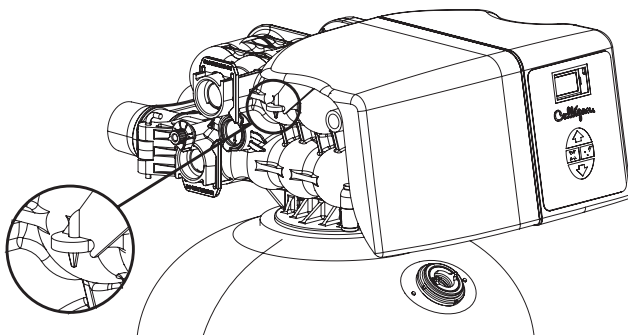
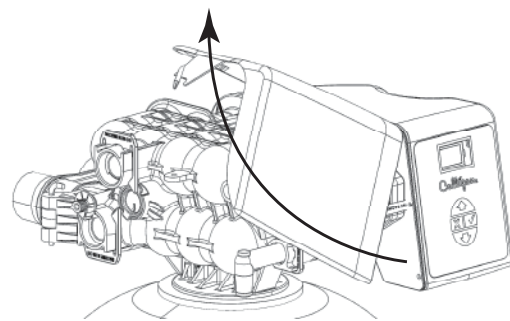

Figure 11. HE 1.5 Twin valve cover fastener clip.
Figure 12. Removing the HE 1.5 Twin valve cover.
1. Remove the cover by releasing the cover fastener from the control valve. See Figure 11 and Figure 12.